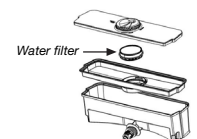

Figure 2.
2. Place the tank on a flat surface and remove the cover by pulling upwards (see figure 2).